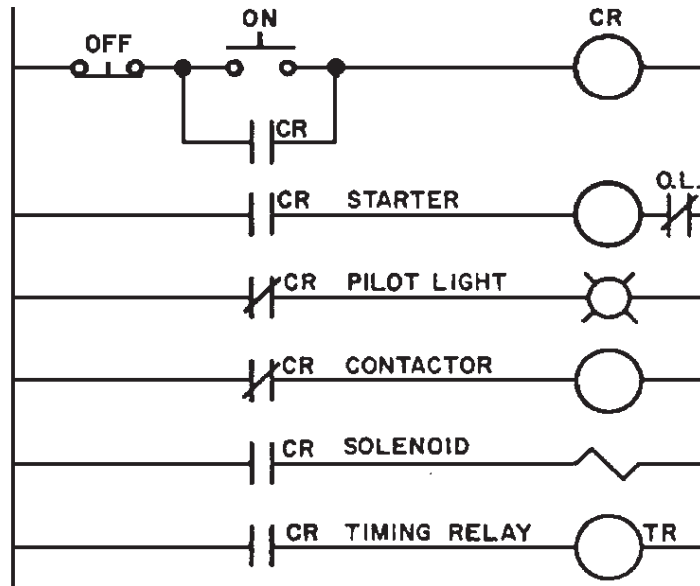

Figure 7-4 Control Circuit
Figure 7-4 represents another use of relays, which is to multiply the switching functions of a pilot device with a single or limited number of contacts. Depressing the On button in the control circuit energizes the relay coil (CR). Its normally open contacts close to complete the control circuits to the starter, solenoid and timing relay, and one contact forms a holding circuit around the On button. The normally closed contacts open to de-energize the contactor and turn off the pilot light.
In the circuit shown in Figure 7-4, a single pole push-button contact can, through the use of an interposing 6-pole relay, control the operation of a number of different loads such as a pilot light, starter, contactor, solenoid and timing relay.